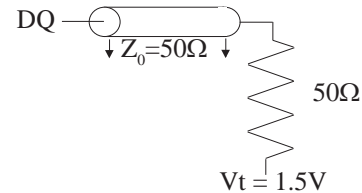

Fig. 1 OUTPUT LOAD EQUIVALENT
1. Test conditions as specified with the output loading shown in Figure 1 for 3.3V I/O ($V_{DDQ} = +3.3\text{V} \pm 5\%$) unless otherwise noted.
Output load	See Figures 1 and 2